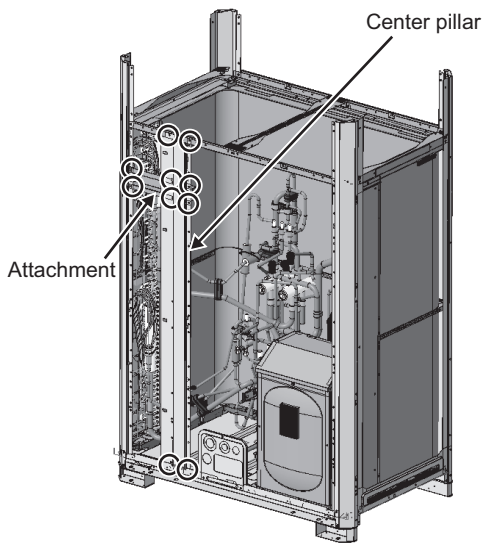

Fig. 63
(10) Remove the center pillar on the front of the unit and the fixing attachment. (Eight screw on the pillar, and two screws on the attachment: Fig.63)